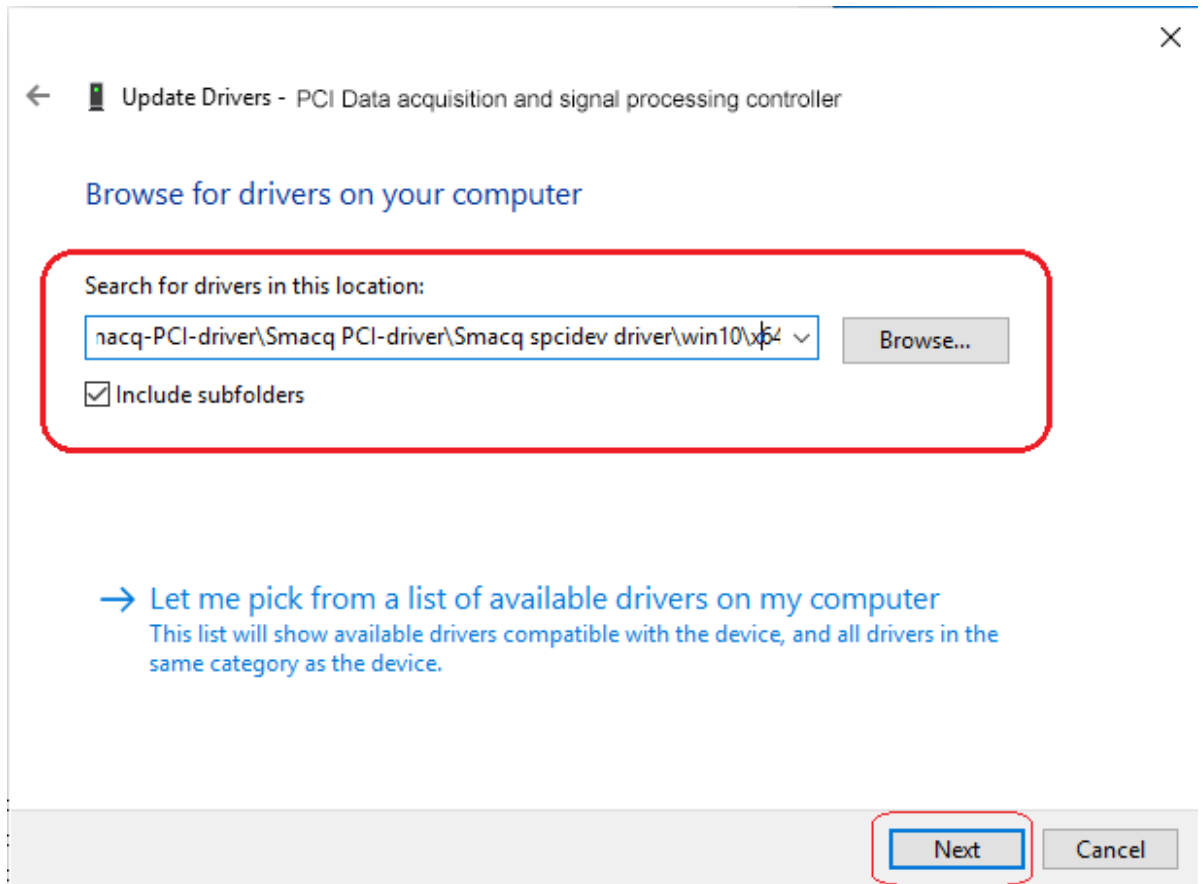

Figure 2.6 Locate the folder where the driver is located.
- 3) Then in the pop-up dialog box, click "Browse" button, locate the operating system version folder corresponding to the driver, and then click "Next", as shown in Figure 2.6
- 4) The computer starts to enter the driver installation process. After the installation is successful, the dialog box shown in Figure 2.6 below pops up, and the driver installation is completed.